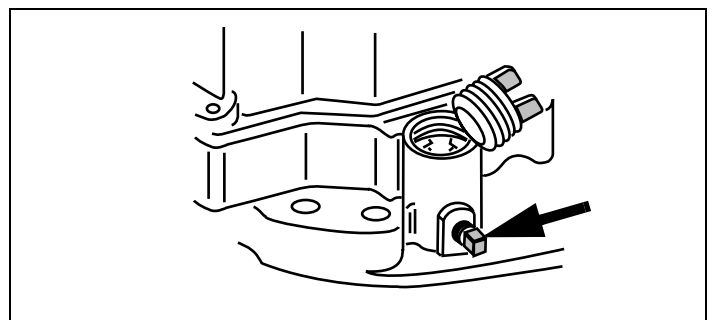

Figure 40. Oil Drain Plug
3. Be sure you find the correct oil drain plug location, if present (see equipment manufacturer's instructions). See Figure 40.
4. Clean area around oil drain plug. See Figure 40.